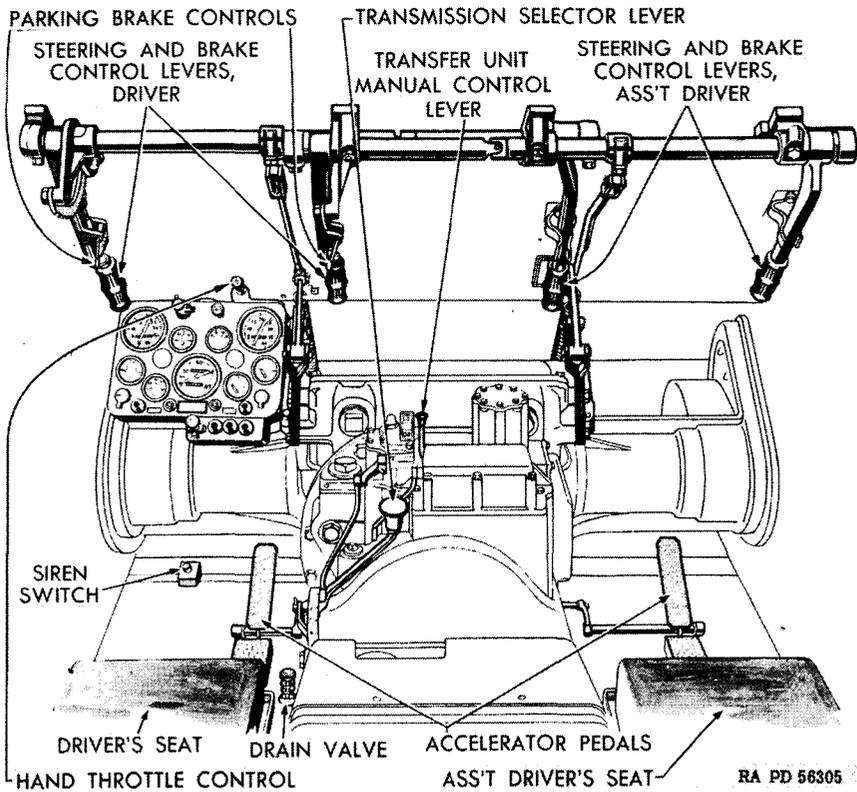

Figure 12 — Driving Controls
m. **Siren Switch.** The siren switch is located on the floor of the driving compartment (fig. 12). A reset button, for use in case the siren circuit breaker opens, is located on top of the instrument panel (figs. 10 and 11).
b. **Accelerator.** Individual foot accelerators are provided for the driver and assistant driver for dual control of the vehicle. Each accelerator controls both engines. The hand throttle is on the driver's side, located just above the instrument panel, where it can be reached by the assistant driver (fig. 12). The hand throttle is self-locking in any position, and is released by means of a spring button in the center of the control knob. **CAUTION:** Turn assistant driver's accelerator pedal back when not in actual use.